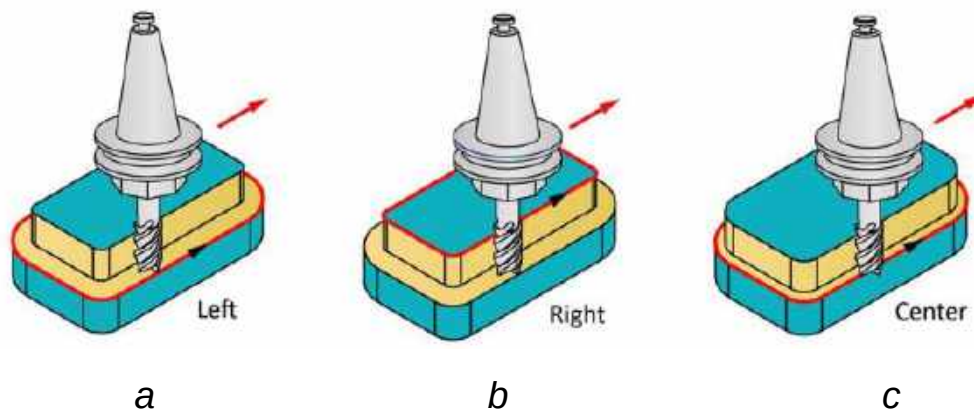

Fig. 48. Tool Position Options:
1) On the left side – the tool cuts on the left side of the profile geometry (the tool is shown with a right-handed spiral and spindle direction M03) (Fig. 48, a);
2) On the right side – the tool cuts on the right side of the profile geometry (tool shown with right-hand spiral and spindle direction M03) (Fig. 48, b);
3) Center – the tool center moves precisely along the profile geometry (no compensation options can be used) (Fig. 48, c) [2].